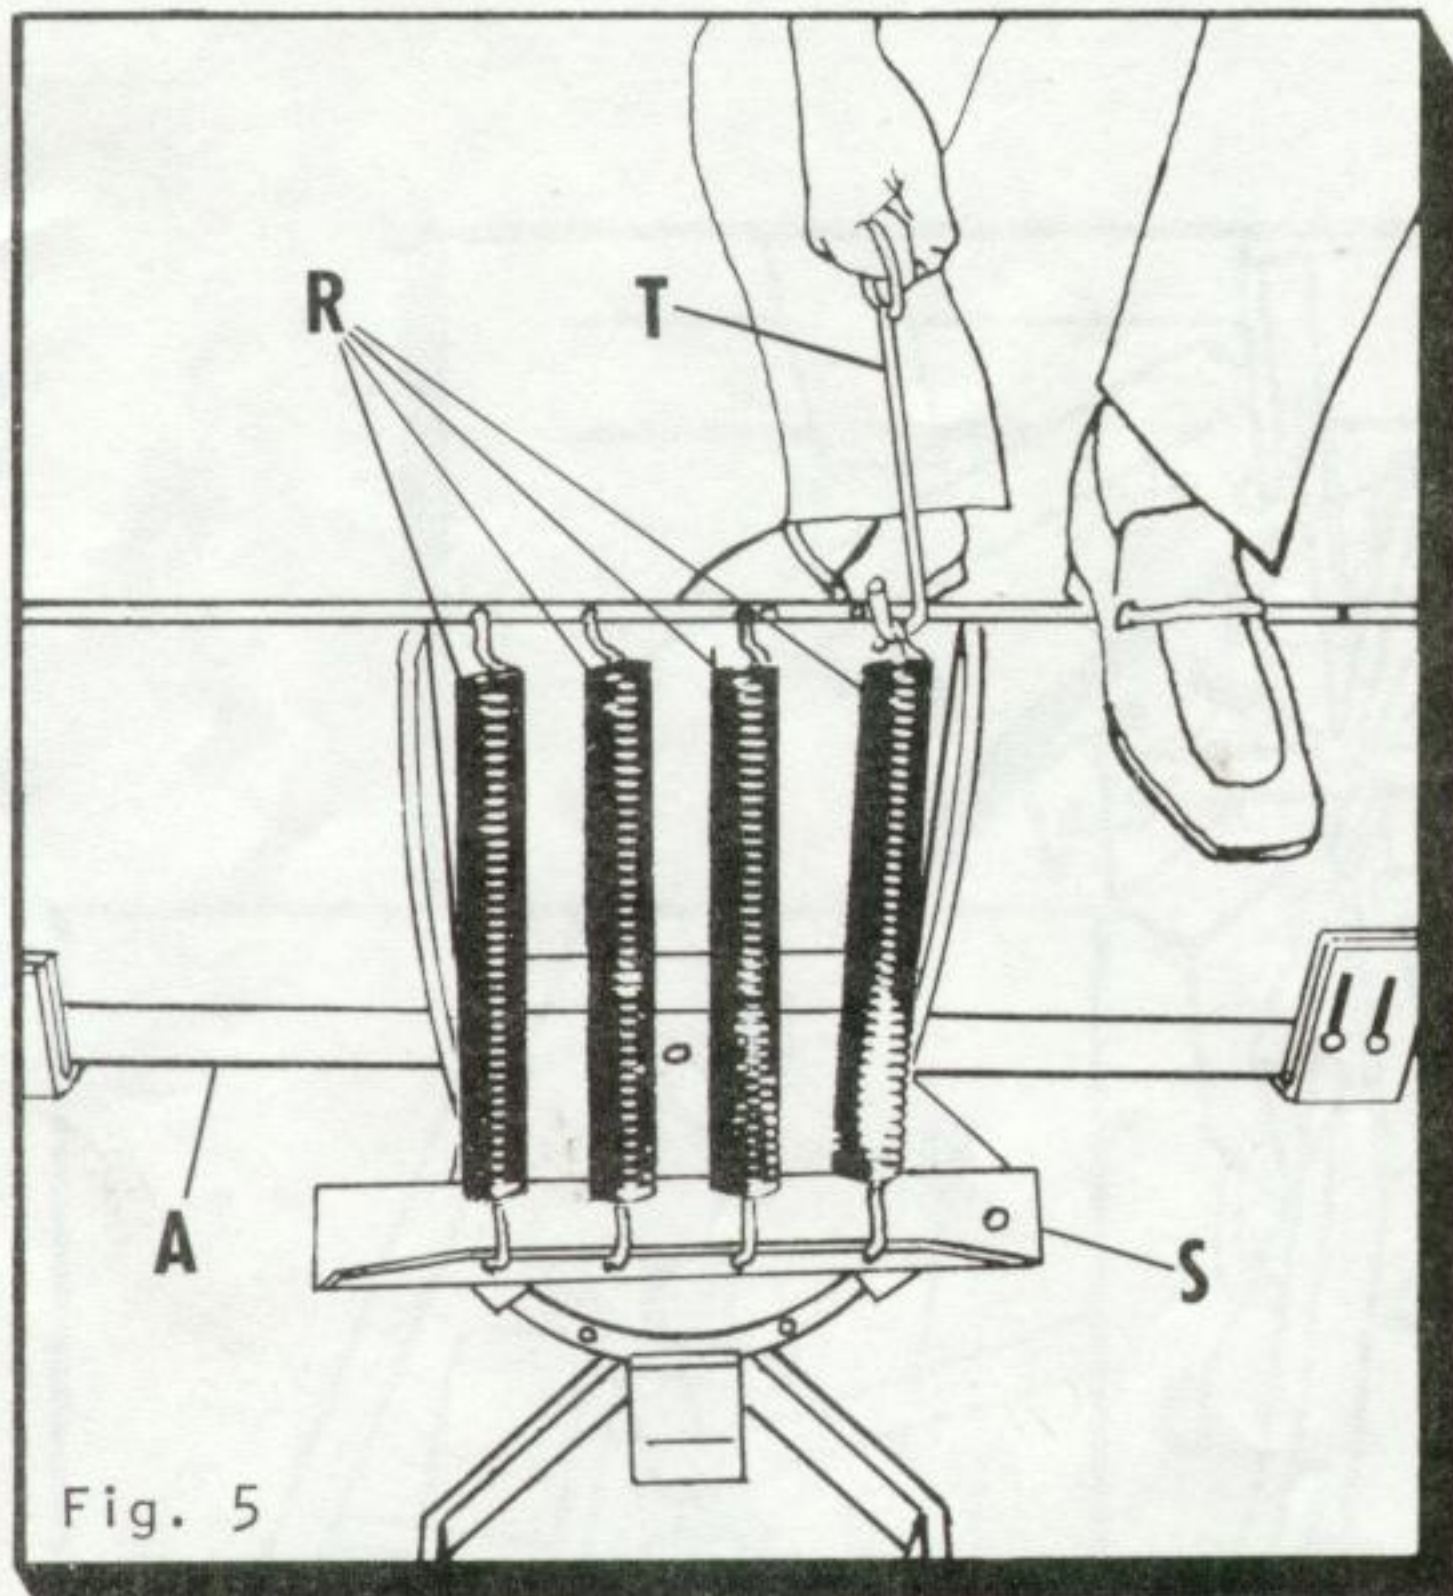

Fig. 5
1. Place dozer blade (M) up right on ground. (See Fig. 5)
2. Assemble four springs (R) to spring anchor (S).
3. Using special hook (T) place foot on dozer blade (A) stretch spring (R) and hook it into hole on top of dozer blade (A).